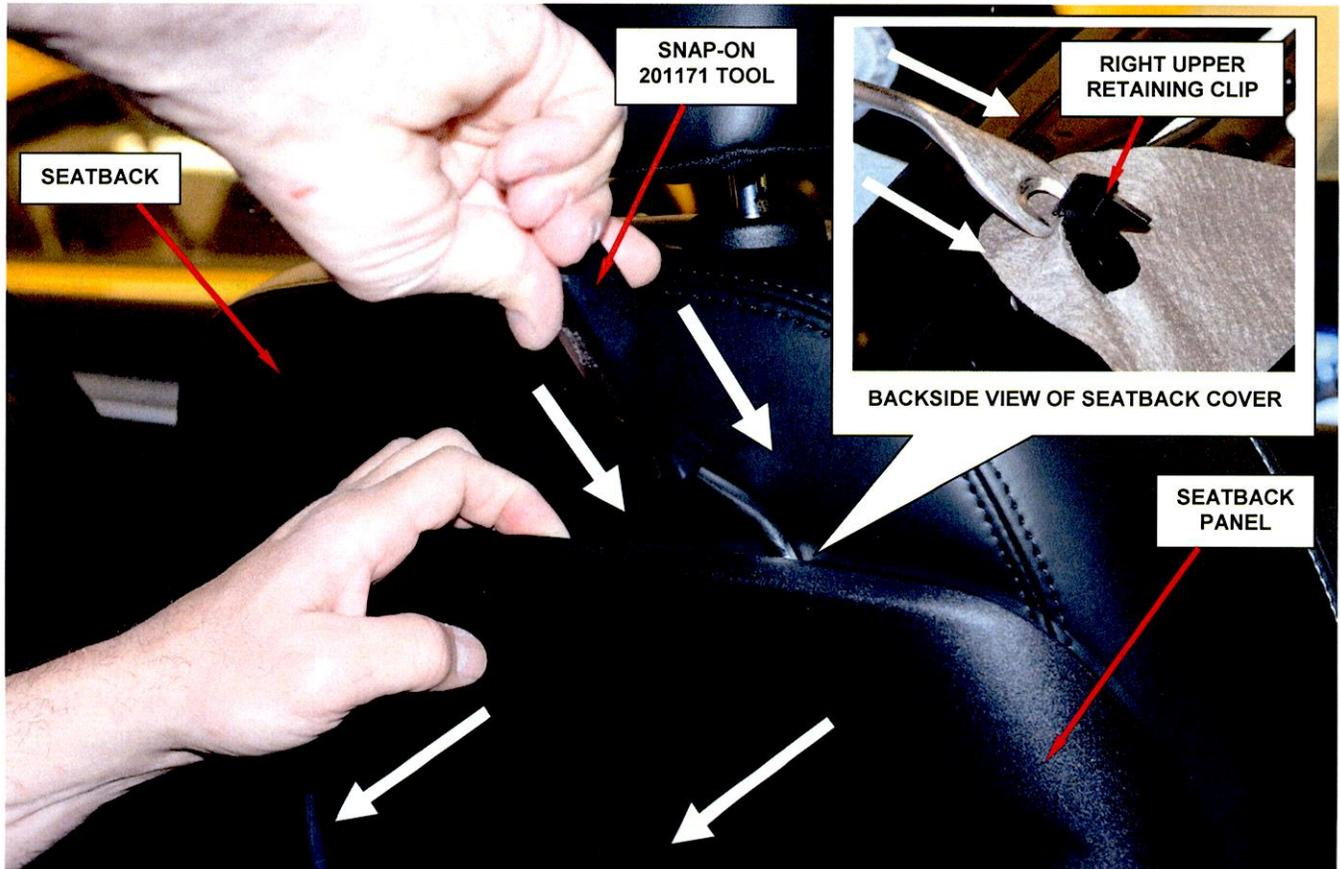

Figure 1 – Disengage the Two Upper Retaining Clips
- a. Insert a Snap-on 201171 tool, or equivalent, at the top of the seatback panel and push down on the upper retaining clips to disengage the two clips while pulling outward slightly on the top of the seatback panel (Figure 1).